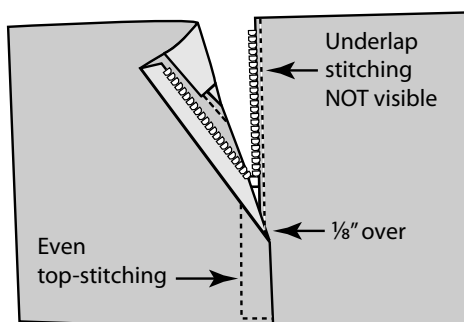

Figure 4
- On a garment, the placket laps from left to right. (Figure 4)
On the left side (overlap), the zipper is secured to the fabric with an even row of topstitching approximately 1/2 inch from the folded edge. This is the only visible stitching on the right side (outside). (Figure 4)